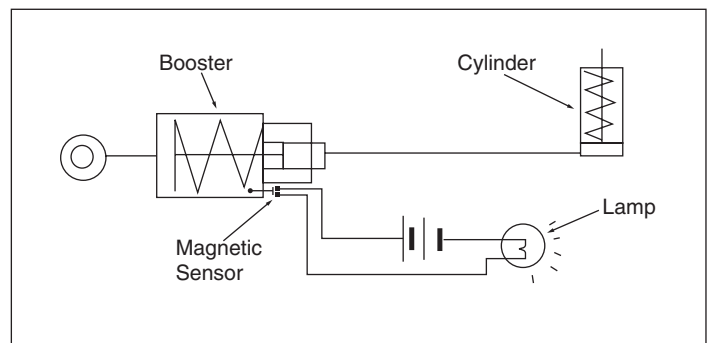

Figure 3
7. **MAGNETIC SENSOR:** The sensor connections are available to connect optional indicator lights or buzzers which actuate upon completion of the hydraulic plunger stroke. Figure 3 illustrates a typical light connection.